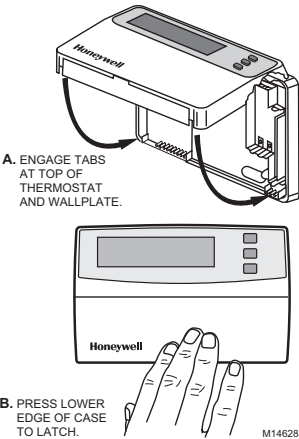

Fig. 5. Mounting thermostat on wallplate.
1. Engage tabs at the top of the thermostat and wallplate. See Fig. 5.